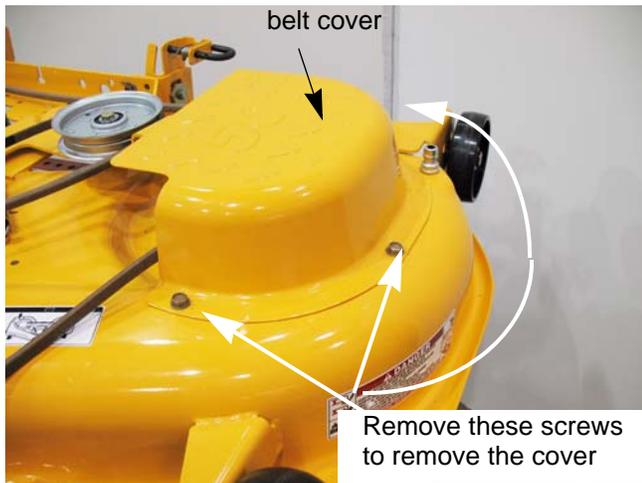

Figure 8.12
4. To access the outer spindles, remove the belt covers. See Figure 8.12.